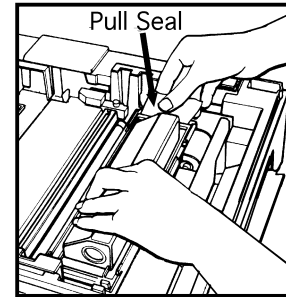

Figure 1
2. Open the cover and remove the developing block from the printer (Fig. 1).